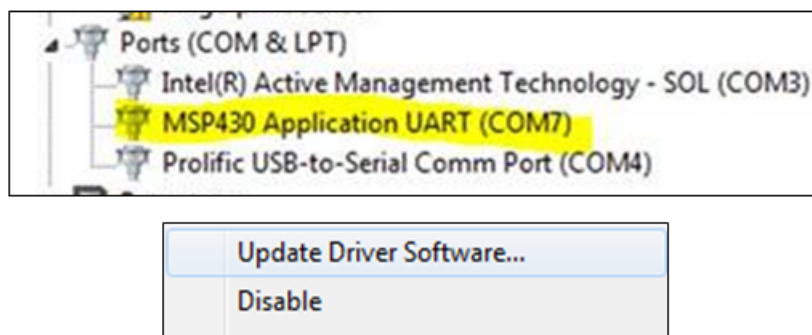

Figure 6. Updating Driver Software in Device Manager
- Select the MSP430 Application (see Figure 6), right click → *Properties*, and click *Update Driver Software*. The MSP430 Application may appear either in *Ports* or *Other Devices*.